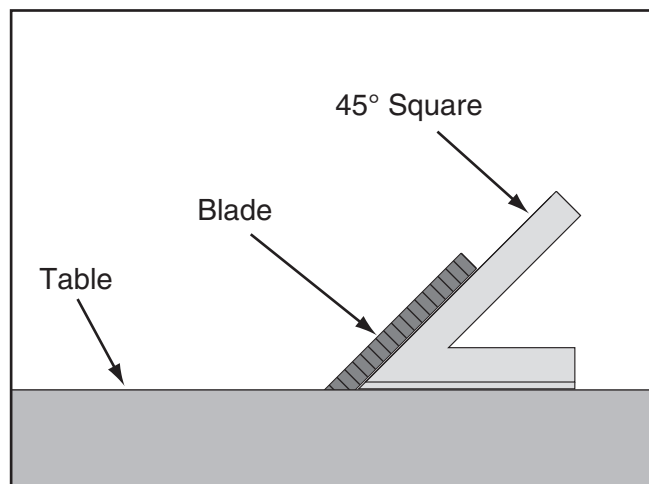

Figure 105. Checking blade at 45°.
3. Place a 45° square against table and blade so it contacts blade evenly from bottom to top, as shown in **Figure 105**. Make sure a blade tooth does not obstruct placement of square.
6. Place a 45° square against blade, as shown in **Figure 105**, then adjust blade until it is exactly 45° to table.